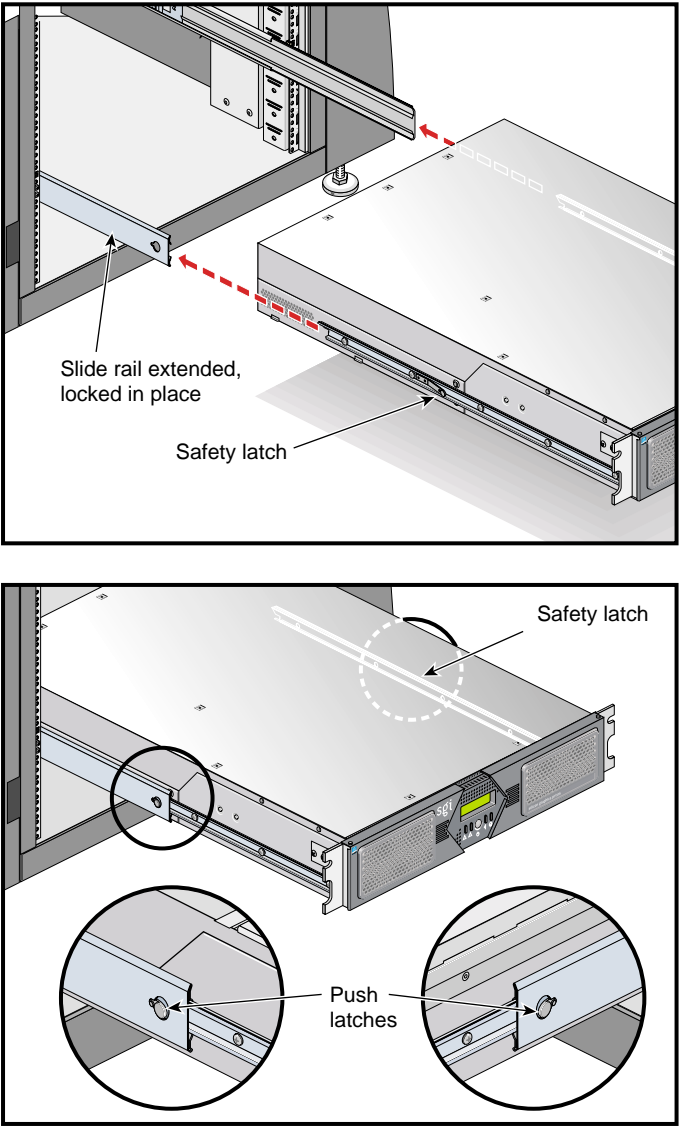

Figure B-8 Pressing the Safety Latches
4. Press the safety latches on both sides of the module to fully seat the chassis rails into the slide rails (see Figure B-8).